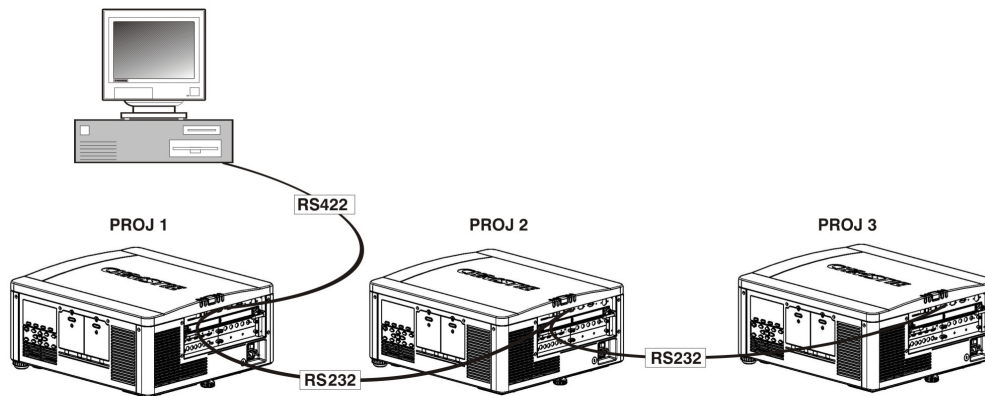

FIGURE 2-25 MIXED NETWORK
2. Chain the projectors together by connecting an **RS-232 OUT** (Null Cable) of the first projector (already connected to the computer/controller through the **RS-422** port straight thru to an **RS-232 IN** on the next projector in the chains). Continue connecting projectors in this manner until you’ve reached the last projector in the chain, so that only the last projector has one unused port **RS-232 OUT**, see *Figure 2-25 Mixed Network*.